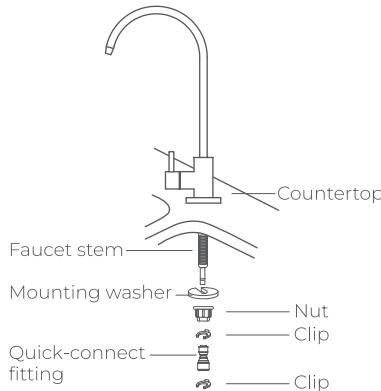

Figure 7
Step 2: Install the Faucet (Figure 7)